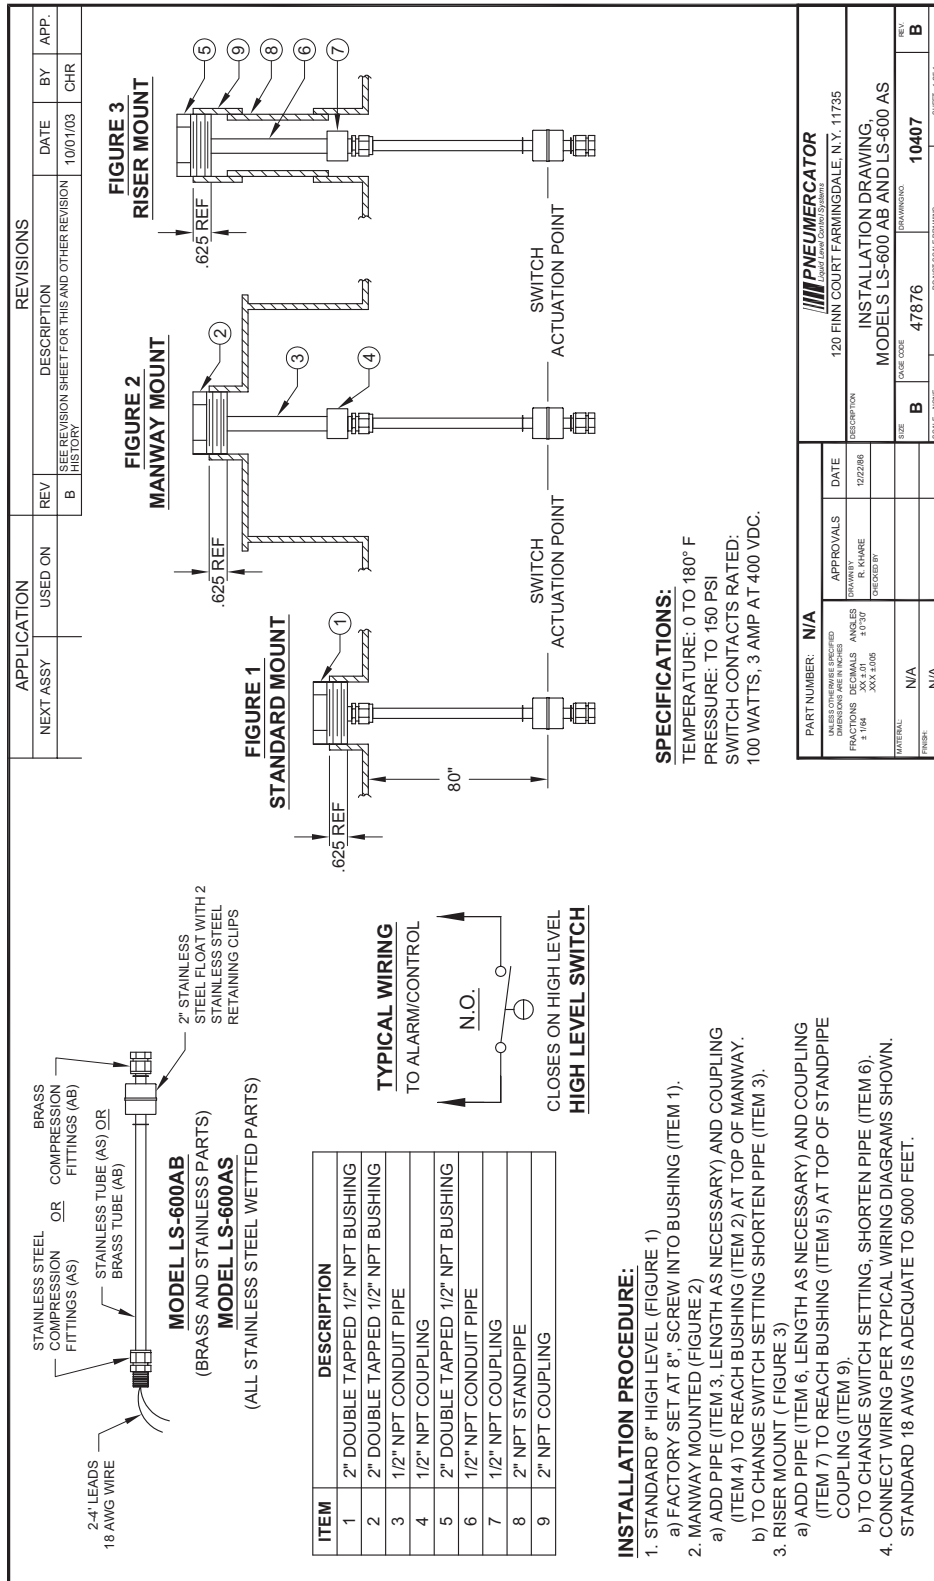

Figure 1 - LS600A Sensor Installation Drawing
2. Refer to the Sensor Installation Drawing, Figure 1, to select the appropriate mounting method to suit the installation. Note that the minimum tank opening is 2" NPT to pass the float through. Follow this mounting method for all level switches to be connected to the LC1000 console - maximum of 4 sensors per console. Use pipe compound on all threads.